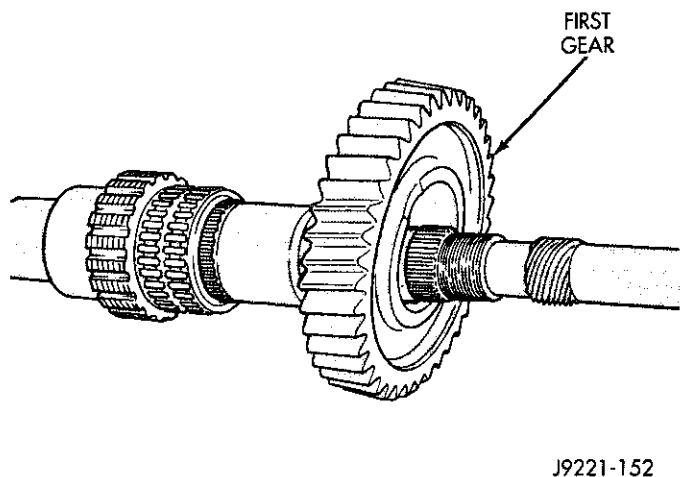

Fig. 73 Removing First Gear
(32) Remove first gear from bearing and mainshaft (Fig. 73).